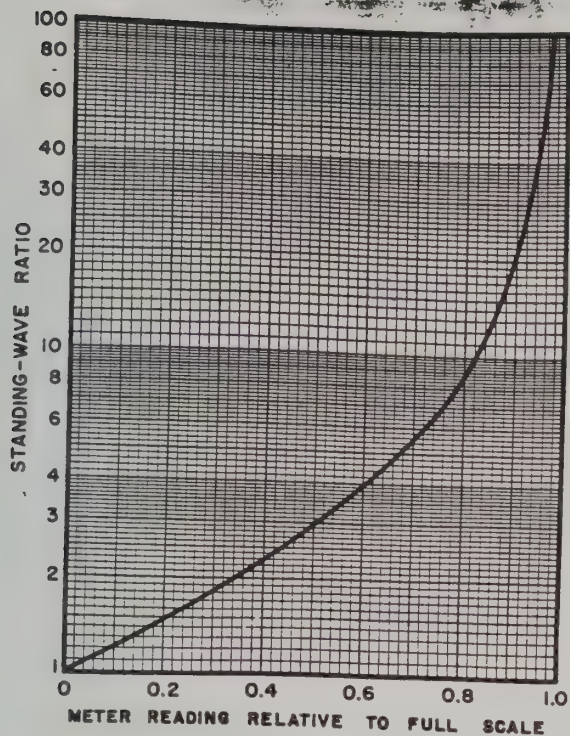

FIGURE 8. STANDING-WAVE RATIO CHART
11. Read the SWR from the chart in Figure 8. A meter reading of .4 relative to full scale deflection is a 2.3 to 1 SWR.
12. Read the SWR from the chart shown in Figure 8.